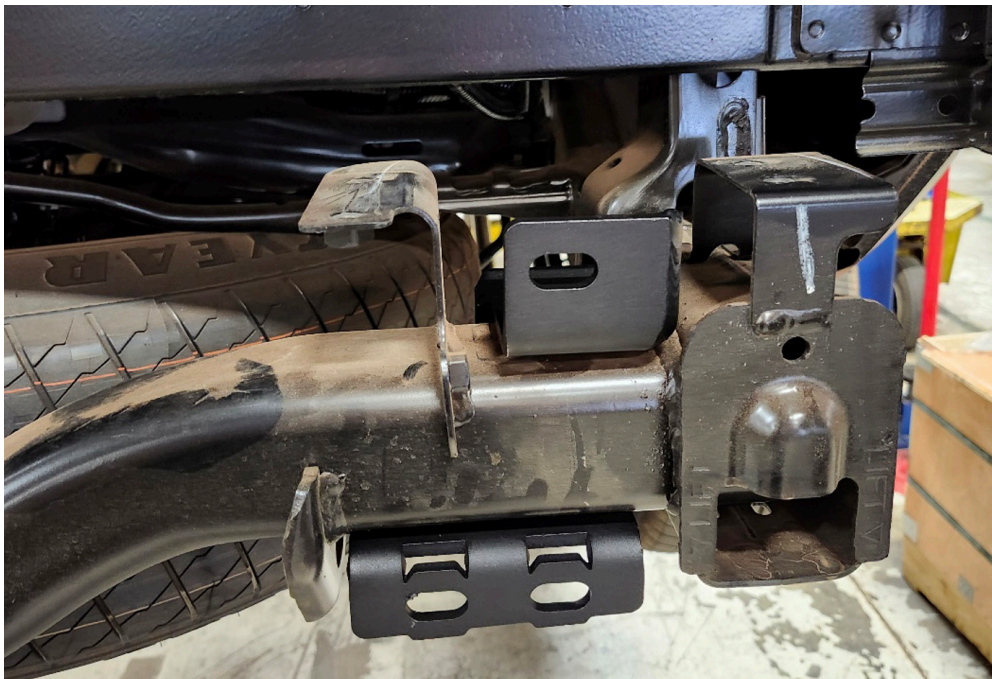

Figure 18
21. Place intermediate brackets (23318 for PS & 23319 for DS) over rear trailer hitch cross bar as shown in (Figure 18)